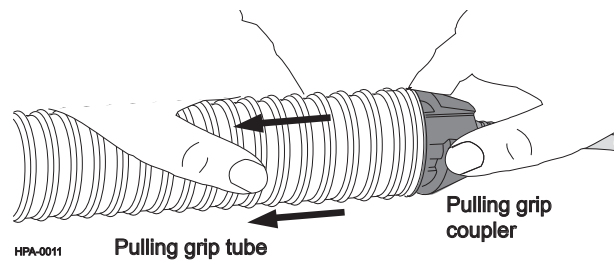

Figure 7 — Grip Disassembly
**Step 4:** With the grip lying on a work surface, grasp the coupler at the cable-end of the trunk cable. With a slight twisting motion, pull the corrugated tube away from the coupler with your other hand (Figure 7).